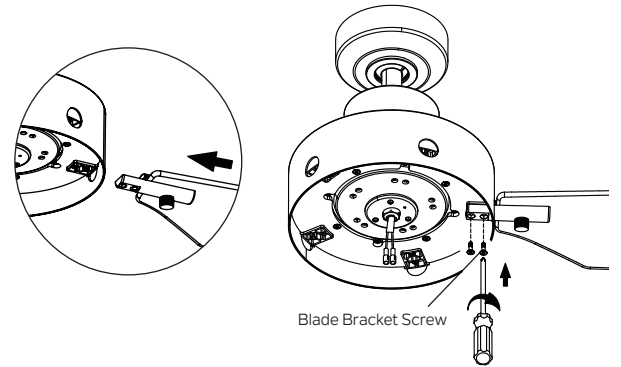

Fig. 19
Step 2. Secure the blade brackets to motor using blade bracket screws as shown. (Fig.19)